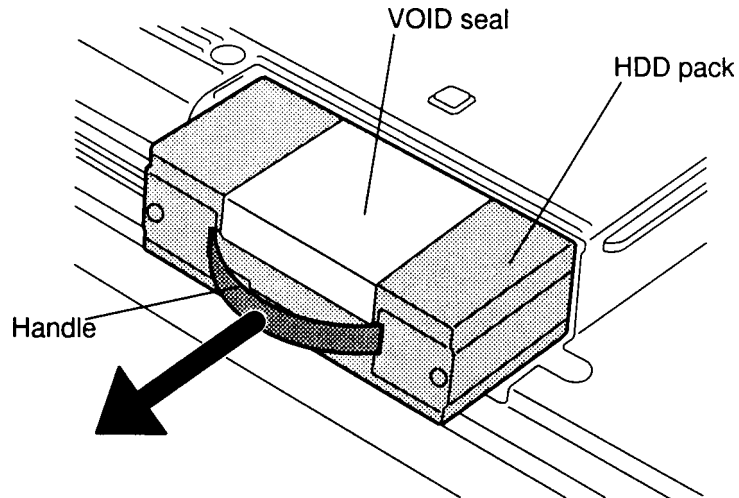

Figure 4-8 Removing the HDD pack
7. Grasp the **handle** on the **HDD pack** and pull out the pack (Figure 4-8).
5. Insert the **HDD pack** into the HDD slot until you hear it click into place. Press the HDD gently; do not force it. The HDD pack is designed so it will go into the slot only one way (Figure 4-8).